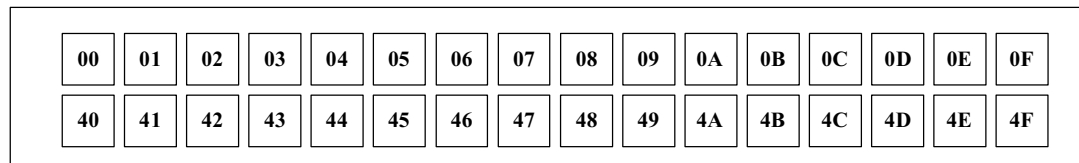

Fig 4.13 The character location v.s DDRAM address(default)
- ✓ Busy Flag (BF) : When BF = “High”, it indicates that the internal operation is being processed. So during this time the next instruction cannot be accepted. BF can be read, when RS = Low and R/W = High (Read Instruction Operation), through DB7 port. Before executing the next instruction, be sure that BF is Low
- ✓ Address Counter (AC) : AC stores DDRAM/CGRAM address, transferred from IR. After writing into (reading from) DDRAM/CGRAM, AC is automatically increased (decreased) by 1. When RS = “Low” and R/W = “High”, AC can be read through DB0 ~ DB6 ports.
- ✓ Display Data RAM (DDRAM) : DDRAM stores display data of maximum 80 X 8 bits(80 characters), but the LCD module installed can display 16 characters by 2 lines. Fig. 4.13 shows the DDRAM address with respect to the character location.